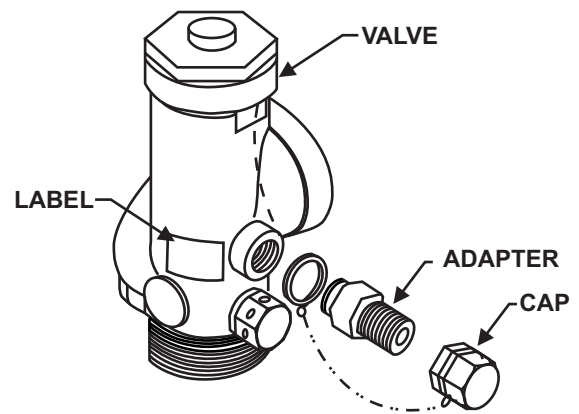

Figure 4-11. Installation of Master Cylinder Adapter Kit
1. Remove the 1/4-inch pipe plug from the slave actuation port on the master cylinder valve (see Figure 4-11).